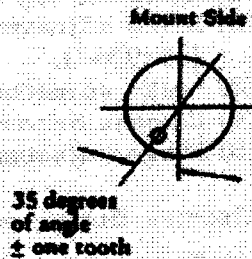

Fig. 6
- 2) Set the dowel of Counter Cam (19-9996) at the position in Fig. 6, 35 degrees of angle $\pm$ one tooth.